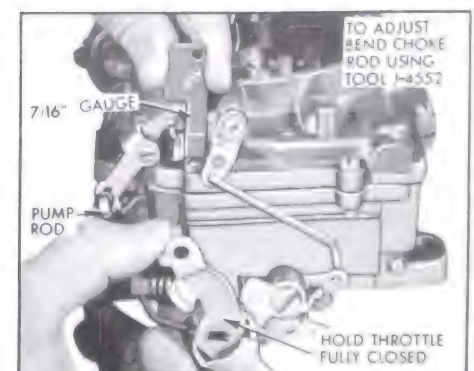

Figure 3-85—Pump Adjustment
3. **Adjust Pump.** Push fast idle cam aside and back out throttle stop screw until throttle valves seat in throttle bores. With pump rod in center hole, measure from air horn to top of plunger shaft with scale. Bend pump rod at lower angle as required to obtain $7/16$ " measurement using Tool J-4552. See Figure 3-85. Turn throttle stop screw in (from fully closed throttle position) $3/4$ turn which should provide an initial idle adjustment.